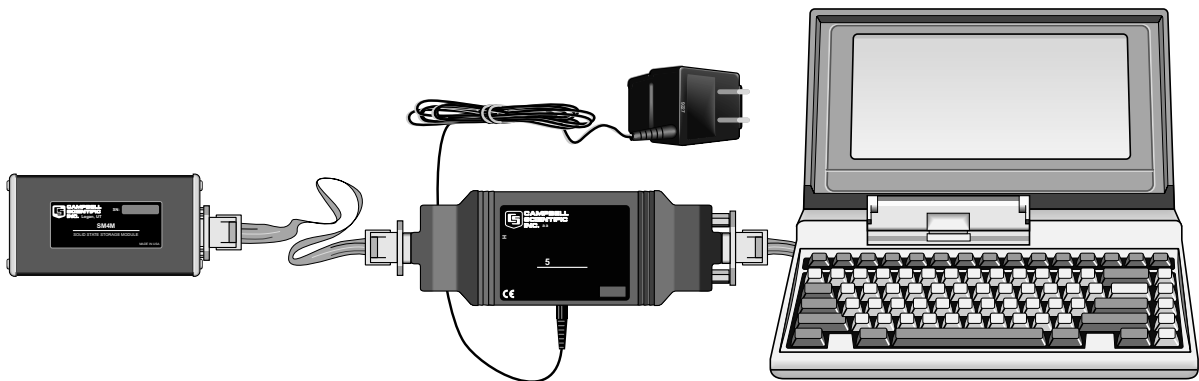
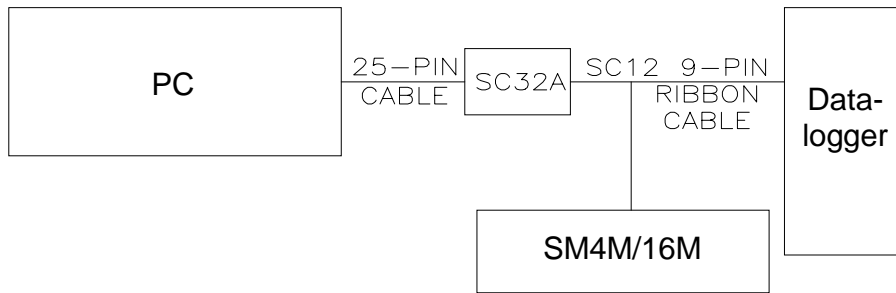
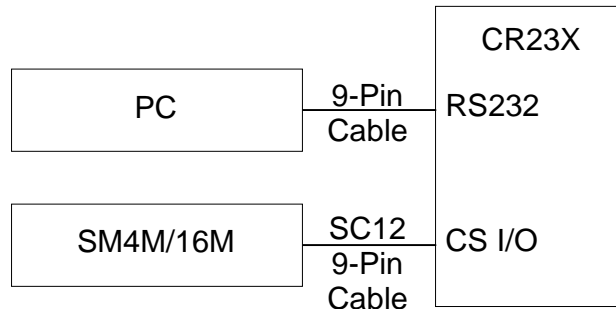

FIGURE 5-1. Storage Module Connected to a Portable PC via an SC532(A) Interface
FIGURE 5-2. Communication Via the CR500/510, CR10/10X or CR23X
FIGURE 5-3. Communication Via the CR23X
5.1.1 SC532(A) Interface
A standard 25-pin ribbon cable (e.g., Campbell Scientific SC25) links the SC532(A) to the computer's 25-pin serial port. If the computer has a 9-pin serial port, a 9-pin to 25-pin adaptor cable is required. For the SC532A you will need a standard 9-pin (or 25-pin, depending on your PC) to 9-pin data cable for linking PC to interface. The SC12 9-pin ribbon cable links the Storage Module to the SC532(A) (see Figure 5-1).
The Storage Module is linked to the CR500/510, CR10/10X or CR23X by the SC12 cable. The computer connection is via an SC32A (Figure 5-2), SC929 or SC532(A)/RAD modem interface. For this configuration with the CR23X, connect all devices to the 9 pin CS I/O port. Select the “Via Datalogger” option in SMS and select the appropriate datalogger and baud rate.
Communication between a PC and Storage Module can also take place via the CR23X when the computer RS232 is connected to the CR23X RS232 and the Storage Module is connected to the CS I/O port (Figure 5-3). This configuration allows baud rates of 19200 and 38400.
SMS (part of the PC208W software package) is a Windows-based program which provides a simple and efficient way of communicating with the SM4M/SM16M, as well as Campbell Scientific's Card Storage Module (CSM1), Card Reader (MCR1) and PC (PCMCIA) Cards. SMS normally requires the SC532(A) interface as shown in Figure 5-1 for direct connection. For communication via the CR500/510, CR10/10X or CR23X the setup shown in Figure 5-2 is required. The CR23X can also be used without an SC32A (Figure 5-3). SMS also has a terminal emulator for manual execution of telecommunication commands. Refer to the PC208W manual for more details.
Connect the Storage Module to the PC via SC532(A) as in Figure 5-1. Run SMS and select the Data tab to collect data. Alternately use a terminal emulator (the program or terminal emulator must raise DTR and RTS). Send carriage returns until CR, LF, % is returned. Once the % is returned the Storage Module is ready to accept telecommunications commands (see Appendix B).
Make the connections (see Figure 5-2 or 5-3) and establish communications with the datalogger. Send the command 'xM,CR' to the datalogger (where x is the Storage Module address 1...8). If the connections are correctly made and the Storage Module is properly addressed, it will send back 'CR, LF, %.' If the attempt to establish communications fails, the datalogger will return '*'.
Once the '%' is received, the Storage Module telecommunications commands (see Appendix B) may be used. SMS can be used when the connection to the datalogger is through the SC32A Optically Isolated RS232 Interface as shown in Figure 5-3.